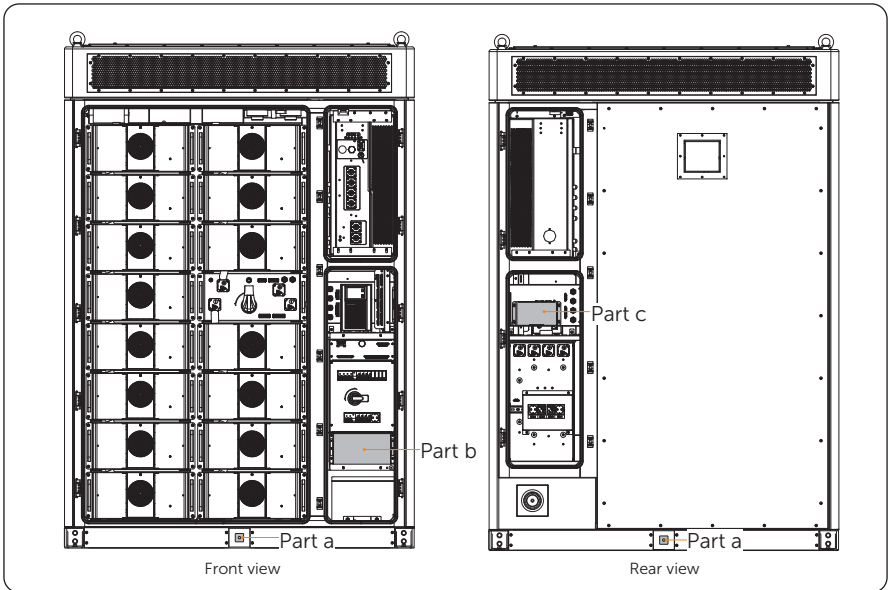

Figure 7-1 Part that needs wiring
- Before wiring, operators are required to learn which parts need to be conducted wiring. For details, please refer to Figure 7-1.
The equipment supports grounding plate connection and PE connection. Regarding the wiring area, see **Part a** in "Figure 7-1 Part that needs wiring", please strictly follow the steps below.
Regarding the grid connection, namely **Part b** in "Figure 7-1 Part that needs wiring", please strictly follow the steps below.
Regarding the grid connection, namely **Part c** in "Figure 7-1 Part that needs wiring", please strictly follow the steps below.